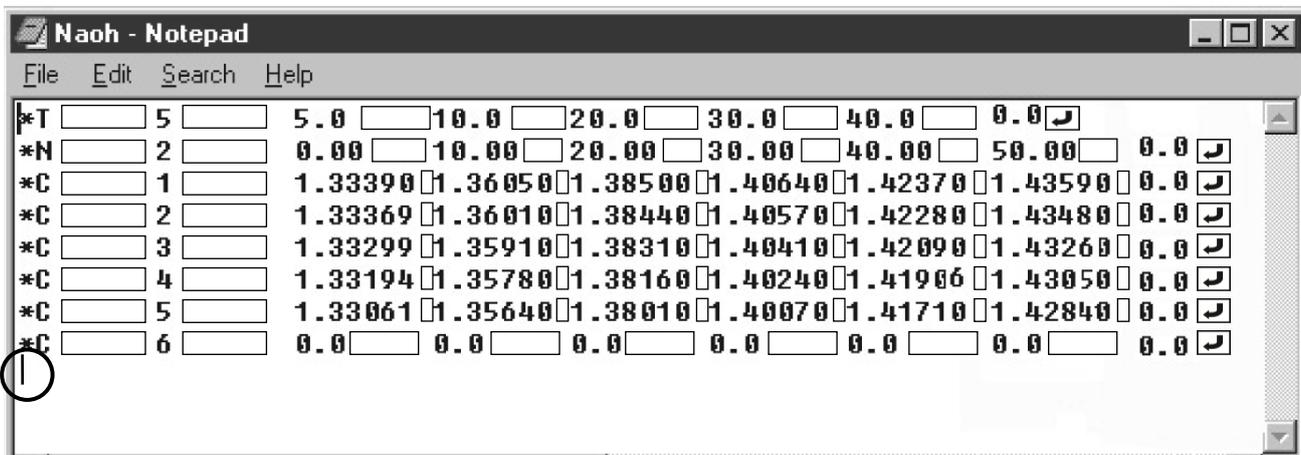

Fig. 11-14
⑥ Create a text file as in Fig. 11-14 based on Data Table 11-2.
**Note** The  mark in Fig. 11-14 is not displayed on the screen.